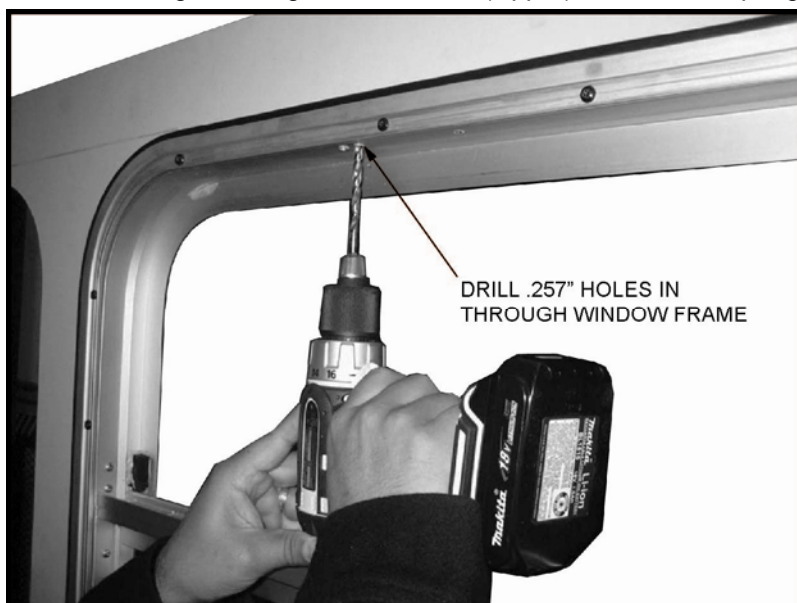

FIGURE 4: DRILL HOLES
3. Refer to **Figure 4**. Drill through existing holes used for (Upper) Mechanical Spring Retainer Blocks.